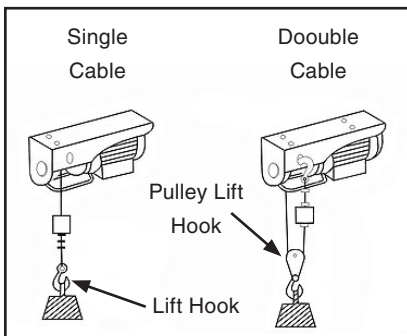

Figure 8. Cable options.
3. Verify the weight of the item to be hoisted. Review the **Machine Data** on **Page 2** to see if the operation can be completed with a single or doubled-back cable, as shown in **Figure 8**.